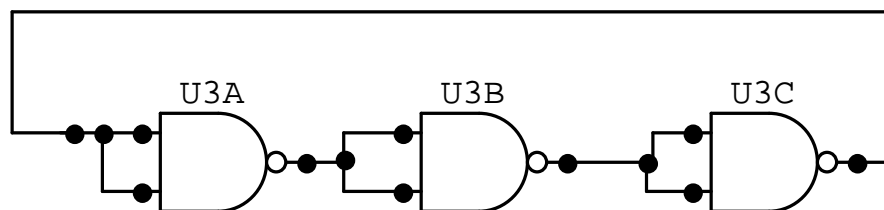

Figure 4.2: Oscillating Ring Circuit using Cascaded NAND Gates
3. The circuit in Figure 4.2 interconnects NAND gates A, B, C in an Oscillating Ring, under the assumption that each gate has Propagation Delay Time T_{PD} and 0 ns Rise and Fall times T_R and T_F .